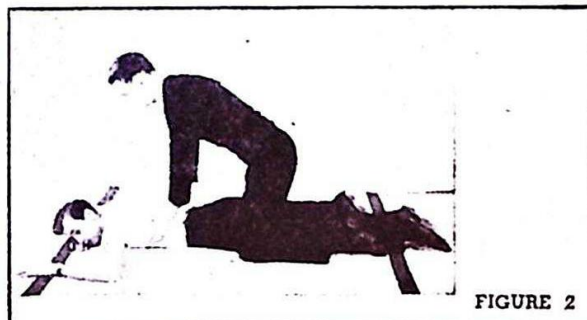

FIGURE 2
3. With arms held straight, swing forward slowly, so that the weight of your body is gradually brought to bear upon the patient. The shoulder should be directly over the heel of the hand at the end of the forward swing. (See fig. 2.) Do not bend your elbows. This operation should take about two seconds.